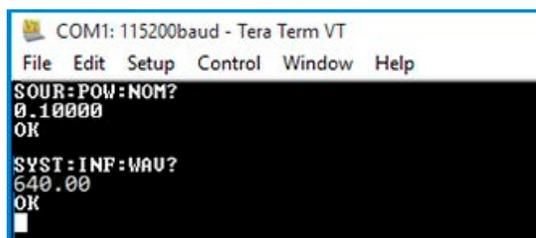

Figure 4-52. Example Query Commands
5. Open a terminal main window and activate the connection. The example in Figure 4-52 shows queries used to check the nominal power level and wavelength of the laser.